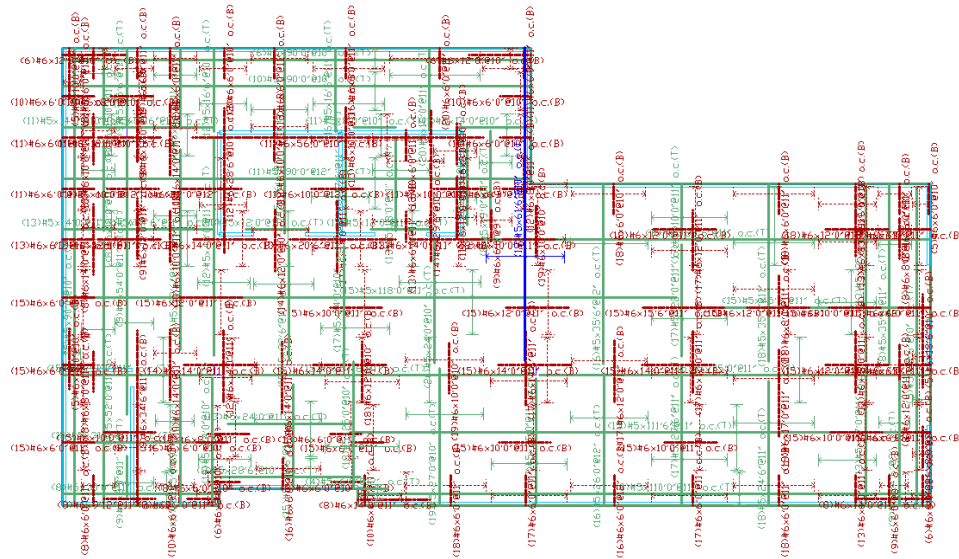

Figure 6.8-12 - Initial Rebar Arrangement
- The program will display the requirement of rebar at the top and bottom faces of the slab and/or beams at all positions for the enveloped condition (considering strength requirement and minimum rebar for service condition when required per code) as shown in **Figure 6.8-12**.